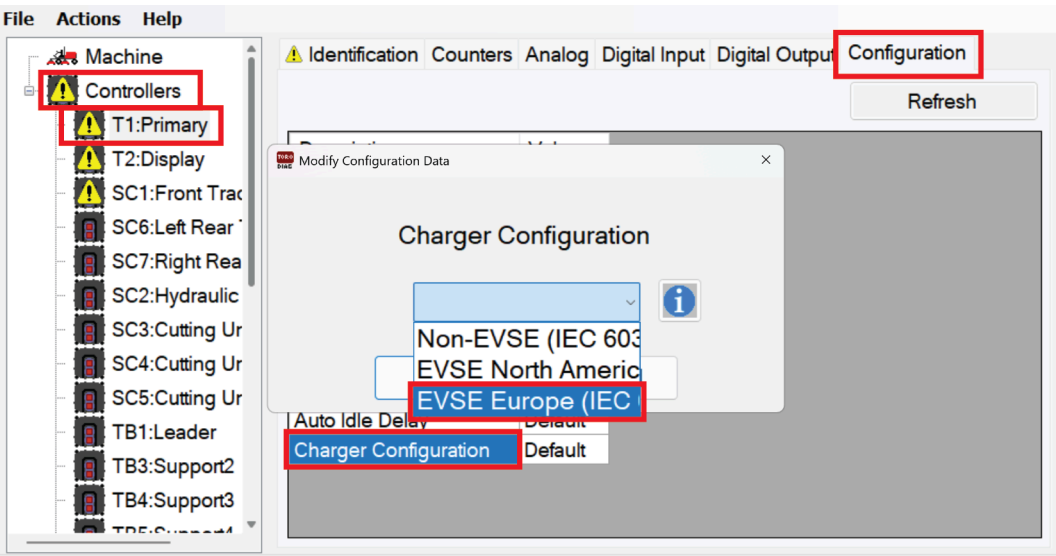

Figure 5
5. The **Charger Configuration** window appears. Select the **EVSE Europe (IEC 61851)** option (Figure 5).